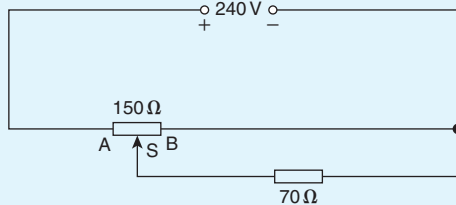

Figure 5.48
5. For the potentiometer circuit shown in Fig. 5.48, AS is 60% of AB. Calculate the voltage across the 70Ω load. [63.40 V]